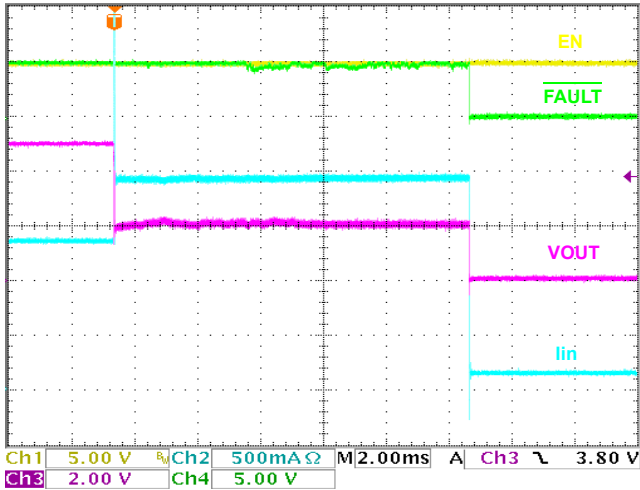

FIGURE 11. 1.5A VARIANT I_{LIM} WAVEFORM
The ISL6186 is a single channel overcurrent (OC) fault protection IC for the +2.5V to +5V environment. Each ISL6186 has a 45mΩ P-channel MOSFET power switch for power control. An enabling input and fault reporting output compatible with 2.5V to 5V logic allows for external control and reporting. This device features an integrated power switch with current monitoring, accurate current limiting, reverse bias protection, and current limited timed delay to turn-off for system reliability. See Figures 11 through 27 for typical operational waveforms including both undercurrent and overcurrent situations.
current limiting mode. Figure 11 illustrates current limiting mode for the ISL6186 product variants with 1.5A of continuous load current rating. The scope shot shows current limiting for ~12ms before it is turned off and the fault signal is asserted.